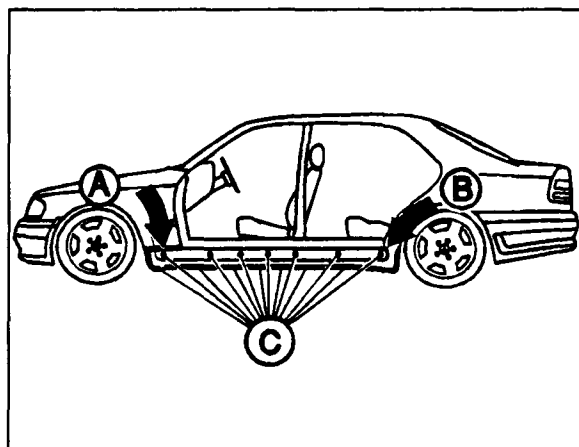

Figure 8
1. Remove molding from front fender (A, Figure 8) and rear wheel opening (B) by carefully levering with plastic wedge (110 589 03 59 00).
3. Remove cover grommets from underside of vehicle (C, Figure 8).